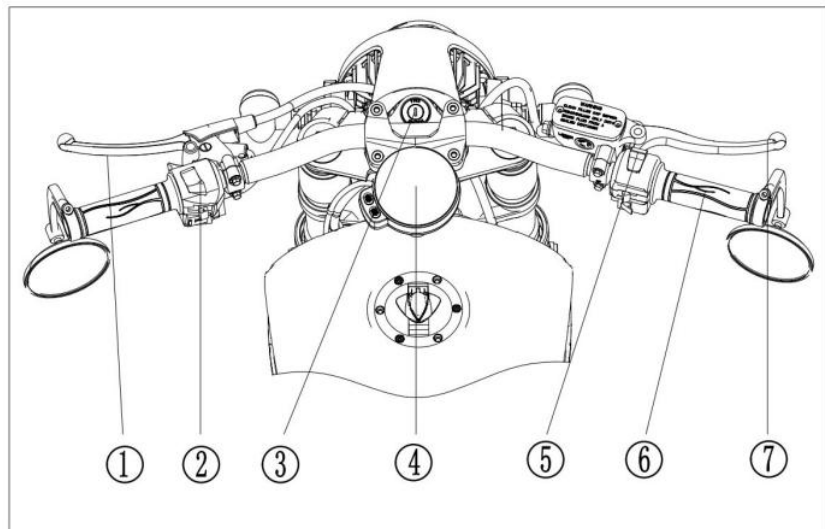

Fig.3
3. (Fig.3)
- ① Clutch Lever
- ② Left switch combination
- ③ Ignition switch
- ④ Instrument
- ⑤ Right switch combination
- ⑥ Throttle handle bar
- ⑦ Front brake lever